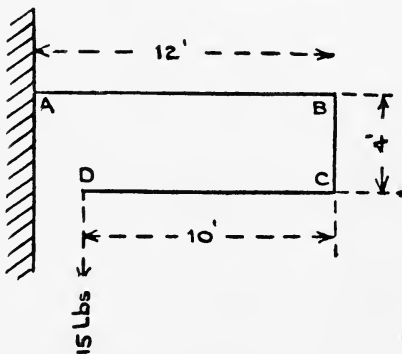

Fig. 3.
5. A bent rod $ABCD$ is fixed horizontally at A in a vertical wall and loaded in the manner shewn in Fig. 3.